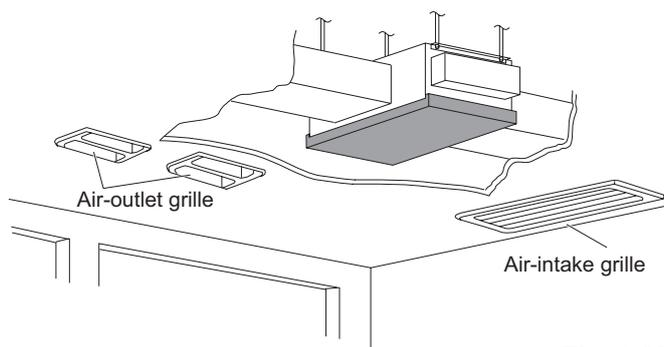

Fig. 1-39
- Plug all gaps at tube through-holes in the unit with insulation or a similar substance to prevent air leakage. (Fig. 1-39)